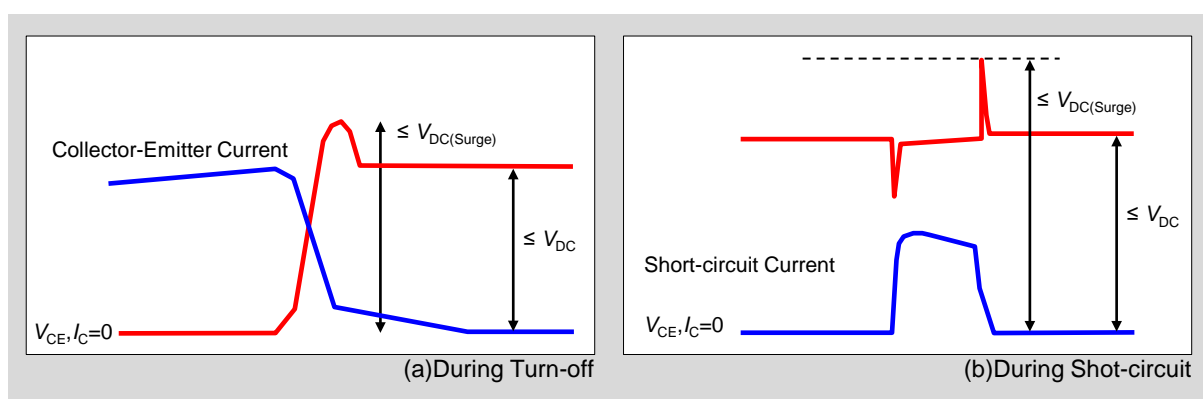

Fig. 1-7 Collector-Emitter voltage
- Fig. 1-7 shows example of (a) turn-off and (b) short-circuit waveforms. The $V_{DC(surge)}$ is different in each situation, therefore V_{DC} should be set considering these situations.